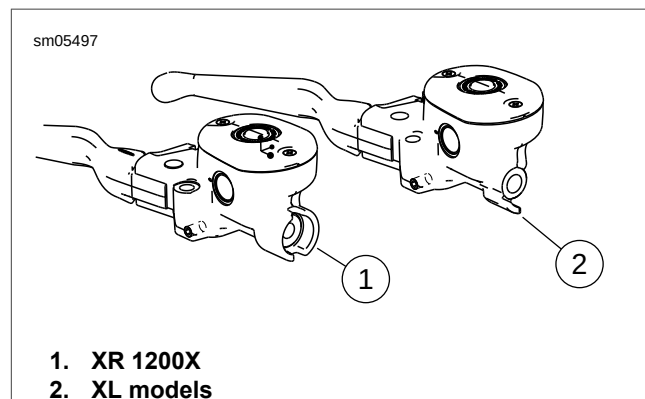

Figure 2-123. Front Brake Master Cylinder Identification
- See Figure 2-123. The XR 1200X and XL models are equipped with different master cylinder housings. Do not mix parts.